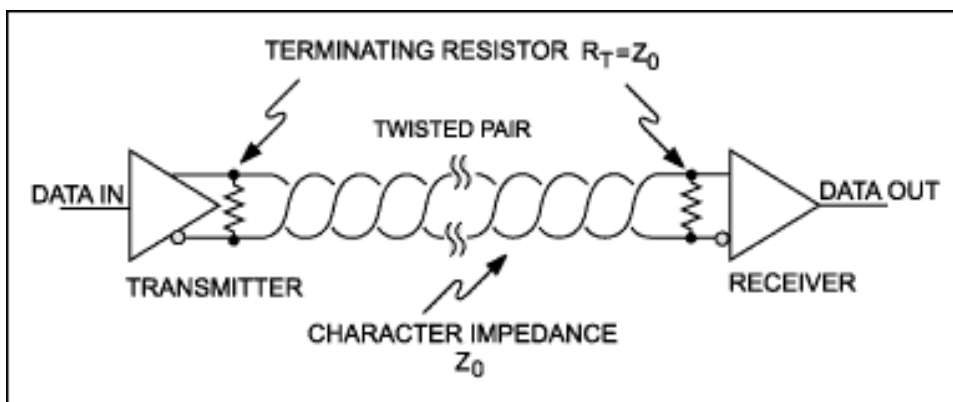

Figure 7. Single transmit, single receive network.
- Proper wiring^[6]: RS-485 specifies differential transmission, which requires two signal wires in addition to a ground wire (commonly a 24 AWG twisted pair) to transmit the signal. The two signal wires carry signals opposite in polarity, and greatly reduce the problems of radiated EMI and EMI pickup. The common characteristic impedance of this wire is 120Ω , which is also the resistance used to terminate each end of the cable—in the interest of reducing reflections and other transmission-line effects. **Figures 7 and 8** illustrate properly wired systems.